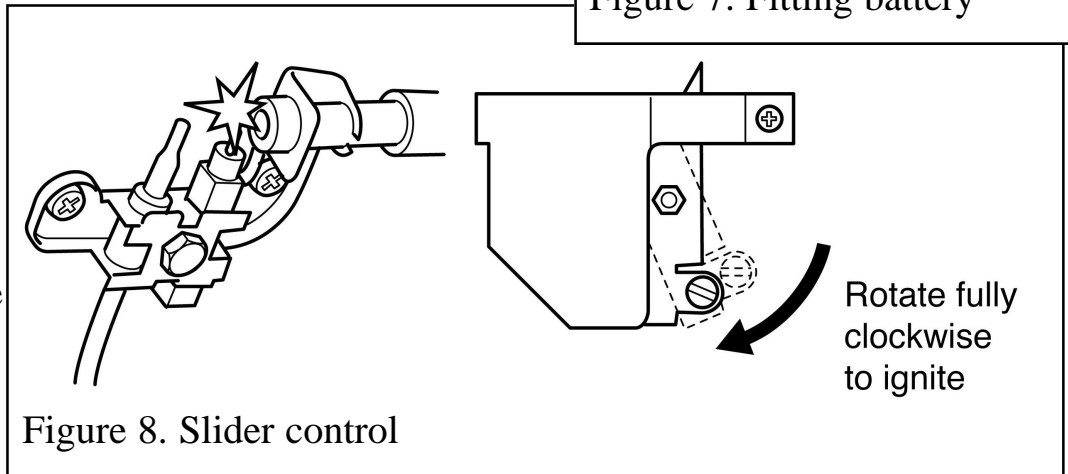

Figure 8. Slider control
- Depress the slider as far as it will go. This should close the ignition circuit. Sparks should be seen tracking from the electrode pin to the pilot tip (See figure 8).
2. Depress the control pivot plate as far as it will go and hold in this position (See section 6, figure 8). This should close the ignition circuit and (now that the gas is connected) simultaneously open the gas tap allowing the gas to flow to the pilot. Wait a few seconds while the air is purged. The electronically generated sparks should light the pilot. The pilot should then light the main burner at its low setting. There may be a delay of up to four seconds between the pilot lighting and ignition of the gas at the main burner. This is normal and is due to the time required to fill the main burner compartment with sufficient gas for ignition.